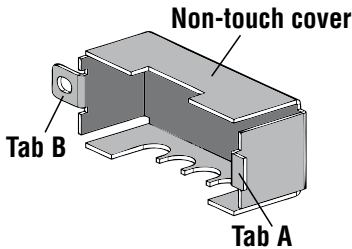
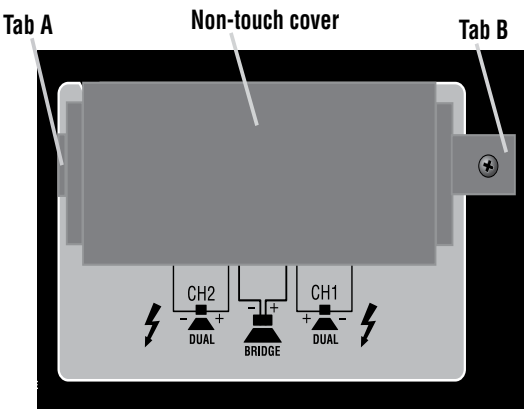

Figure 4.2 Interior of Non-Touch Cover
Figure 4.3 Cover Placement
2. The cover has two tabs A and B (Figure 4.2). Insert tab A into the slot just to the left of the output terminals (Figure 4.3).
3. Put the screw through tab B, and screw it into the hole just to the right of the output terminals (Figure 4.3).